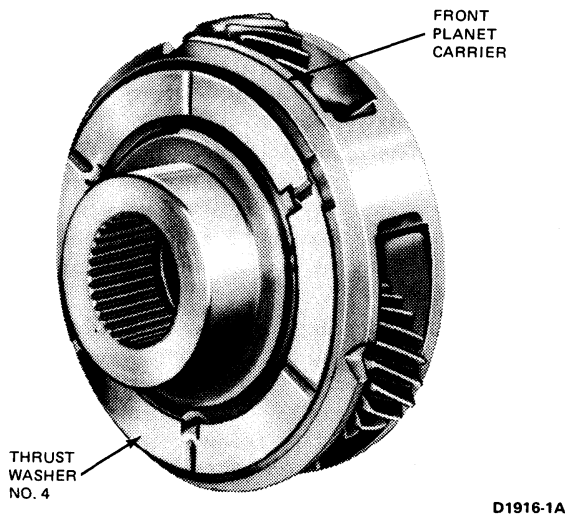

FIG. 44 Number 4 Thrust Washer Location
22. Install thrust washer No. 4 on the front planet carrier (Fig. 44). Install the front planet carrier into